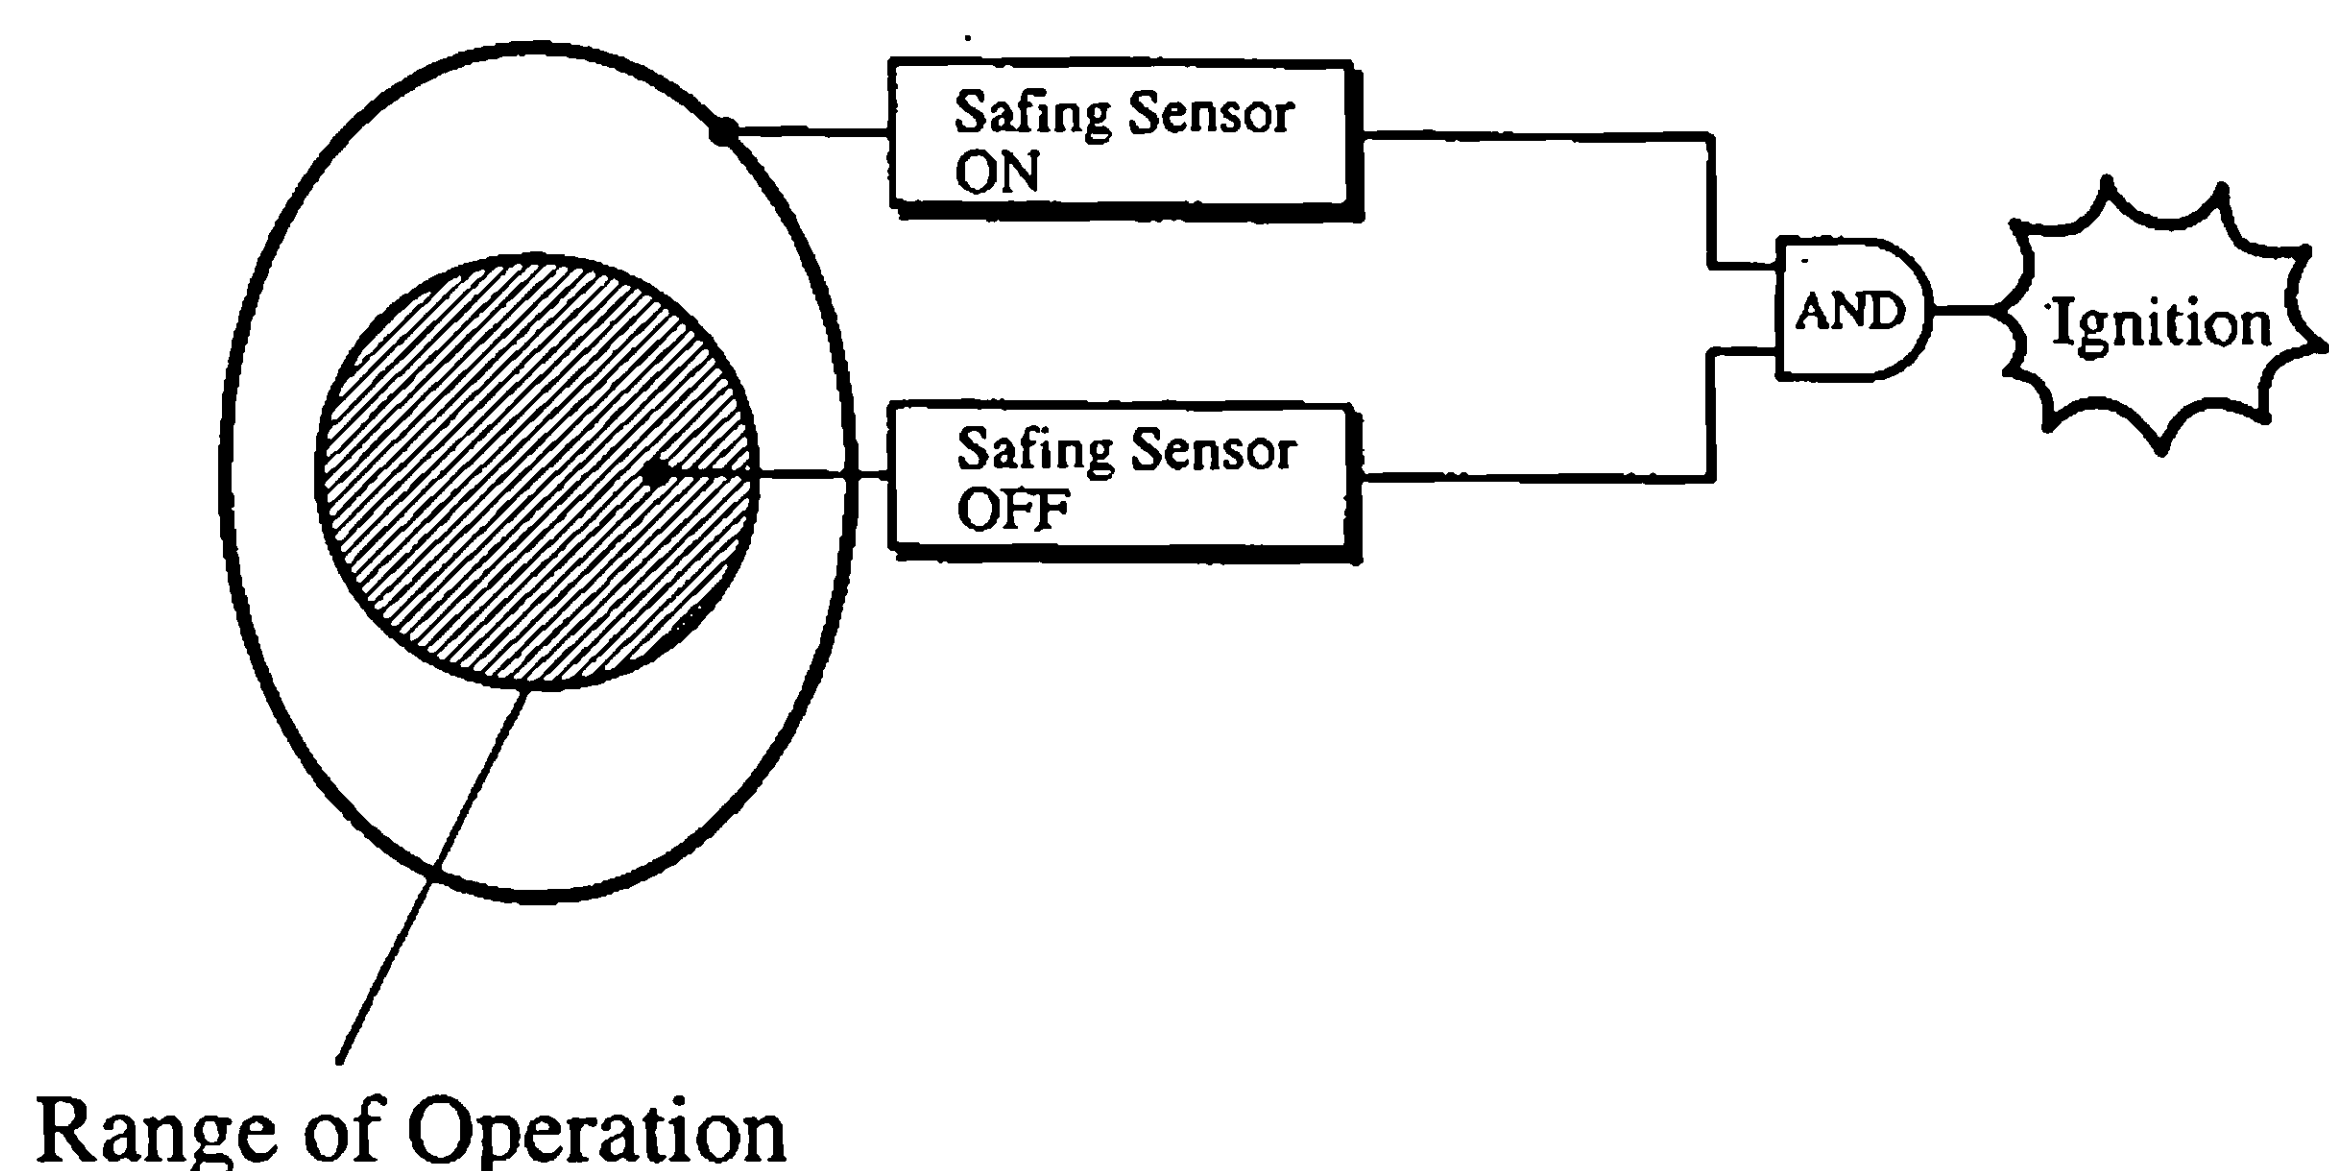

Fig. 2
- The safing sensor is designed to be activated by a smaller deceleration rate than the airbag sensor. As illustrated in Fig. 2 below, ignition is caused when current flows to the primer, which happens when a safing sensor and the airbag sensor go on simultaneously.